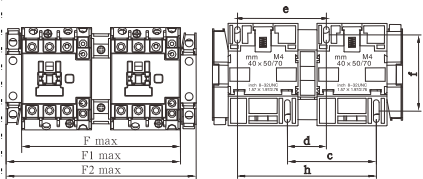
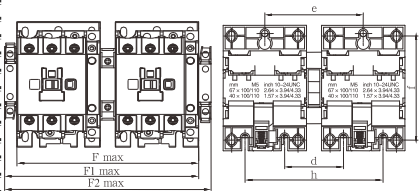

Fig. 6 YCC6-09N~38N
Fig. 7 YCC6-40N~95N
- Reversing AC contactor Overall and Mounting dimension, see Fig. 6, Fig. 7 and Table 3.